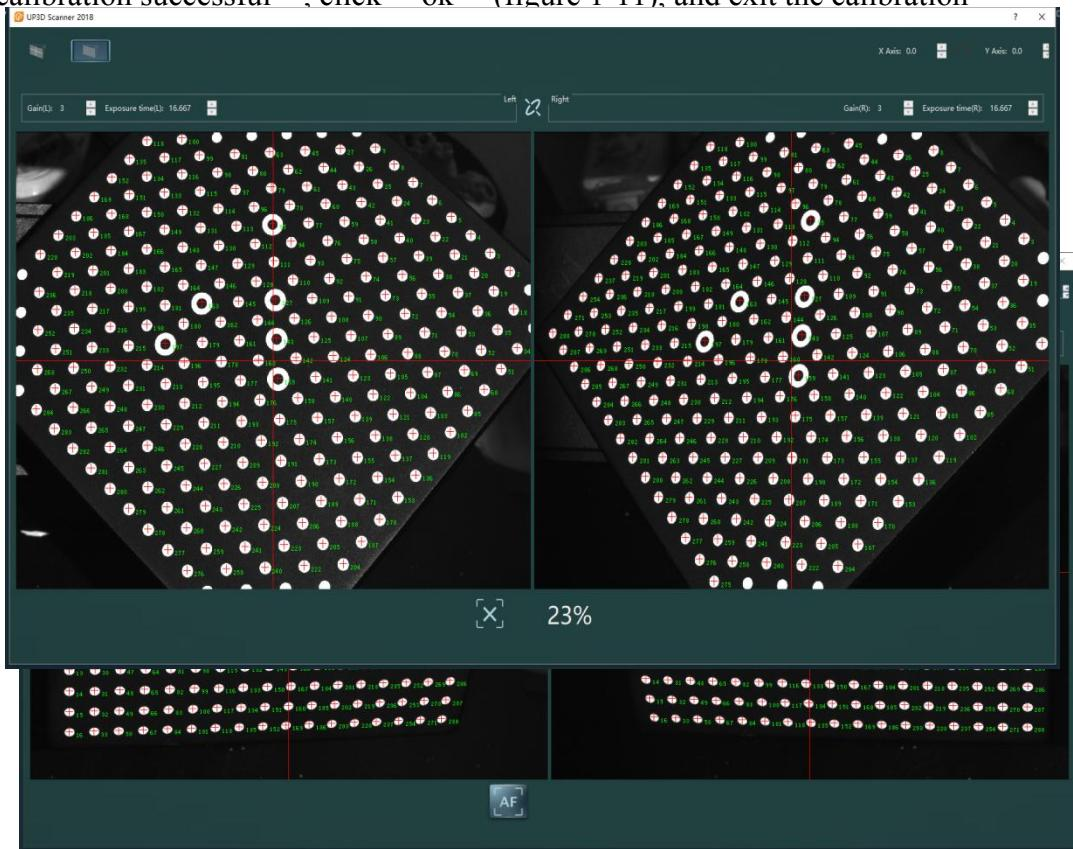

Figure 1-11 AF interface
- After click AF, the scanner starts to calibrate automatically (figure 1-10). In this process, the calibration progress bar will be displayed at the bottom of the interface. Please wait for the camera to automatically complete the 13-step image acquisition and processing, after shows ‘calibration successful’, click ‘ok’ (figure 1-11), and exit the calibration